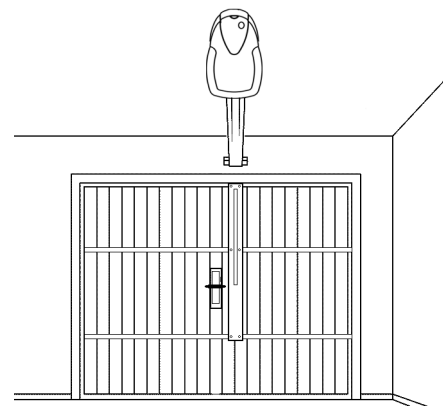

Fig. 7
- The gearmotor should be mounted so that it coincides with the centre of the door, or is slightly off-centre, e.g. in order to mount the OSCILLATING ARM next to the handle (Figure 7).